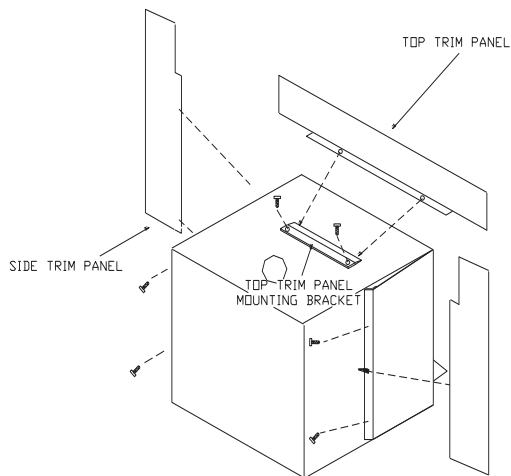

FIGURE 6 MOUNTING TRIM PANELS
1. Place side trim panels in place, flat against the face of the fireplace. Mark down front edge of trim panel with a pencil to make a vertical reference line. (See Figure 6).
4. Mount side trim panels. (See Figure 6).
12. Using insulation provided, peel and stick to back of panels overlapping fireplace dimensions by 1" on each side and top. (See Page 8, Figure 6).